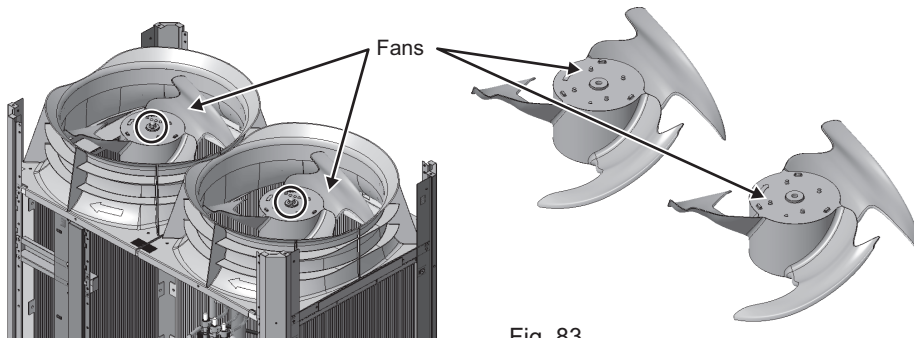

Fig. 83
(7) Remove the fan. (Two nuts: Fig. 83)